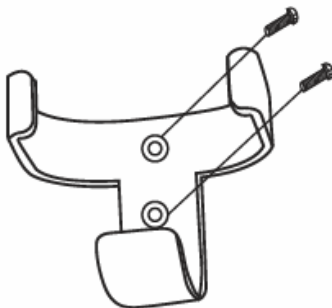

Fig. 9a
1. Locate a suitable wall to fix the remote control holder with the 2 screws. (Fig. 9a).